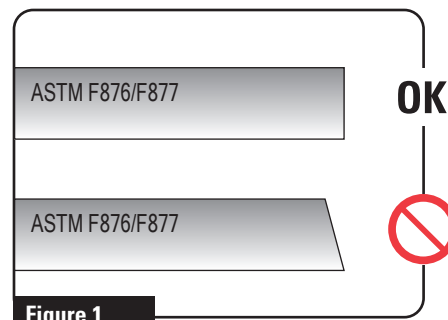

Figure 1
- 1) Cut the tubing square. Verify that the cut-end is free of imperfections; angle cuts, out-of-round ends, contamination, nicks, burrs, deep scoring or damage of any type, are NOT acceptable and require re-cutting. Do NOT apply lubricant of any type, to the tubing end or fitting O-ring. An insert stiffener (not included) installed into the cut-end of the tubing is required, where soft or thin-wall plastic tubing is used. A stiffener is not required when connecting copper tubing. **See Figure 1:**